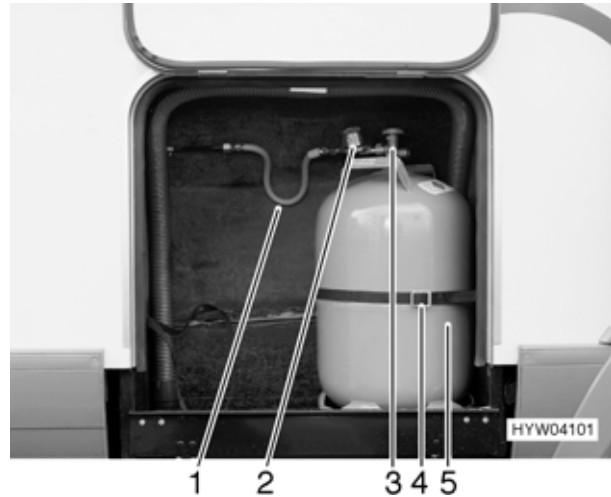

Fig. 102 Gas bottle compartment
- Close regulator tap (Fig. 102,3) on the gas bottle (Fig. 102,5). Pay attention to the direction of the arrow.
- Unscrew the gas pressure regulator (Fig. 102,2) from the gas tube (Fig. 102,1) with a suitable gas spanner.
- Release the fixing belt (Fig. 102,4) and remove the gas bottle.